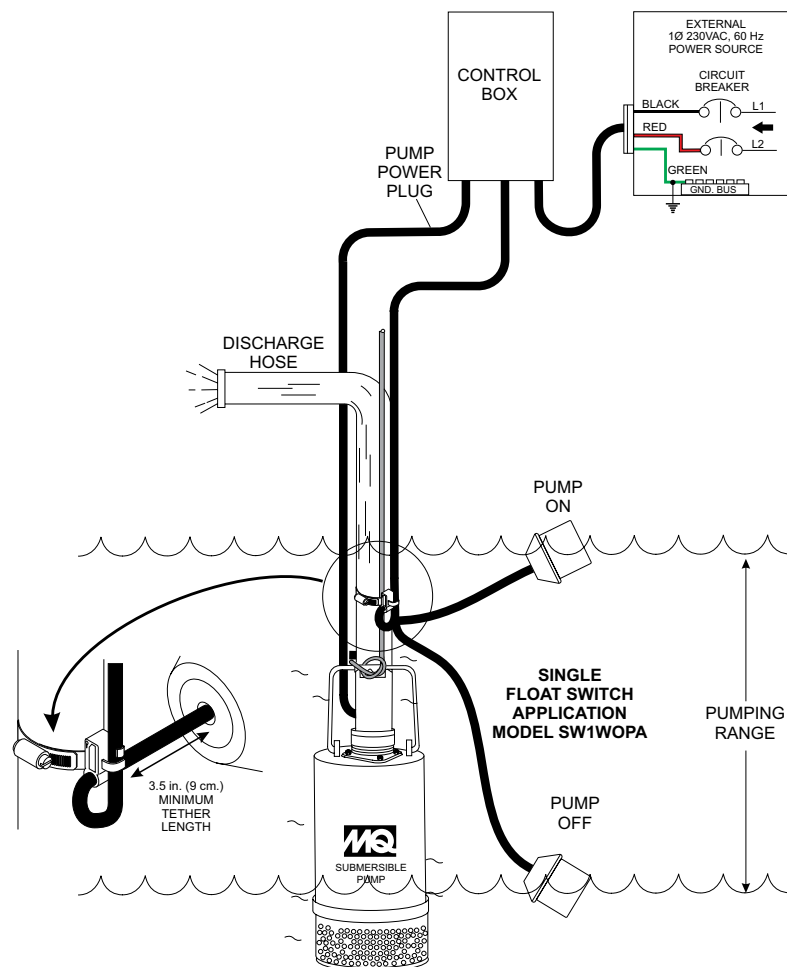

Figure 8. Single Float Switch (2) Application Diagram
2. Place the cord into the clamp as shown in Figure 8.
3. Secure the clamp to the discharge hose as shown in Figure 8. **DO NOT** install cord under hose clamp.
1. Connect a 3-inch hose to the discharge port on the pump as shown in Figure 8. Make sure that hose is attached correctly to the discharge port.
3. Determine the tether length of the float switch wires then secure float switch wires to pump discharge hose. See Figure 8 and Table 3 to determine the pumping range.
4. Connect pump power cord to the thermal overload unit and TB1 as shown in Figures 8, 9 and Table 7.